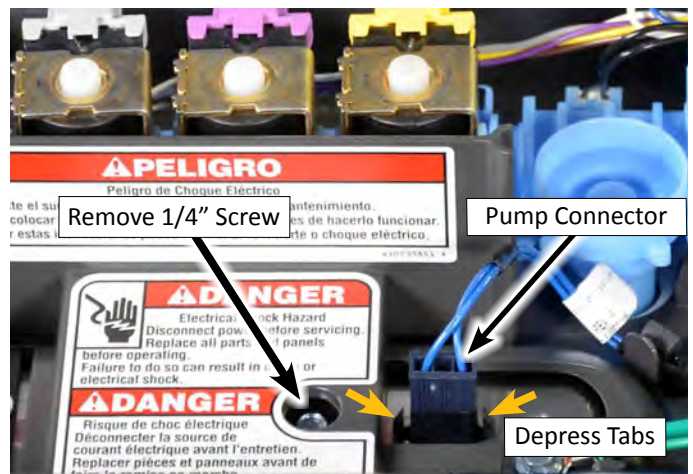

Figure 3
8. Lower the top panel and disconnect the Bulk Dispense Pump connector as shown in Figure 3. Depress the tabs on each side of the 'empty' connector to release from panel.
9. Using a 1/4" nut driver, remove one (1) 1/4" hex-head screw shown in Figure 3.